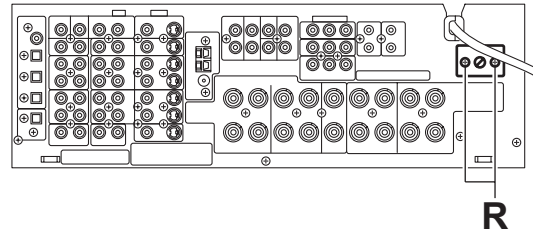

Fig.13
3.11 Removing the voltage selector board (See Figs.13 and 14)
- (1) From the back side of the main body, remove the two screws **R** attaching the voltage board. (See Fig.13)